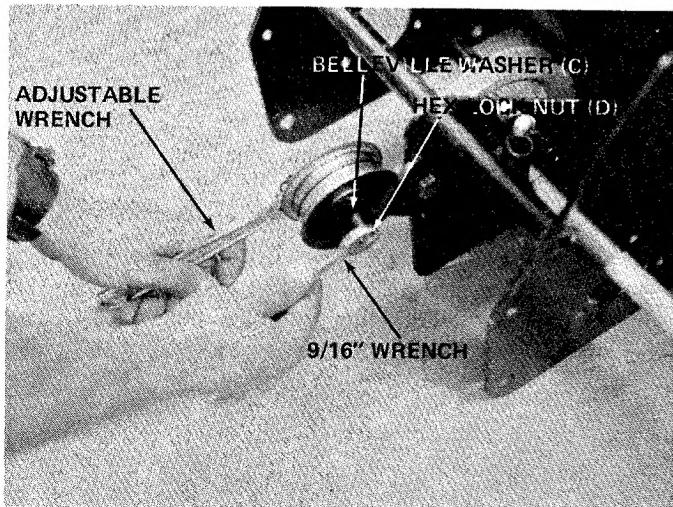

FIGURE 7
- B. Secure idler pulley (A) and hex bolt (B) to idler bracket with belleville washer (C) and hex lock nut (D). An adjustable wrench and a 9/16" wrench is required. See figure 7. Tighten securely.